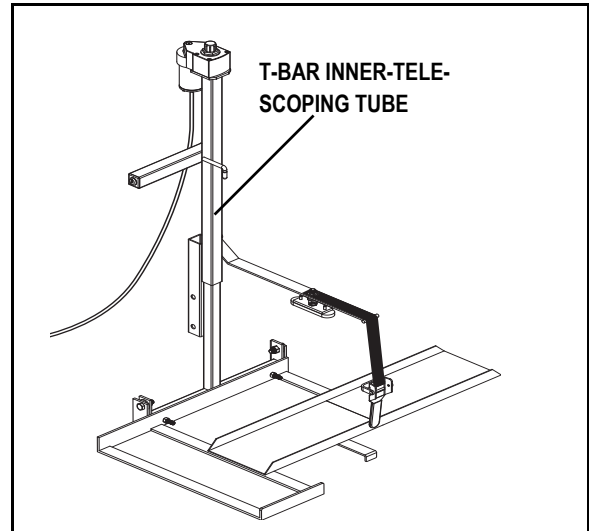

Figure 10. Lift Frame Maintenance
- Lower the platform to the ground, clean away any remnants of old grease from the T-bar inner-telescoping tube, and apply a new coat of all-weather lithium grease to the inner-telescoping tube. See **figure 10**.